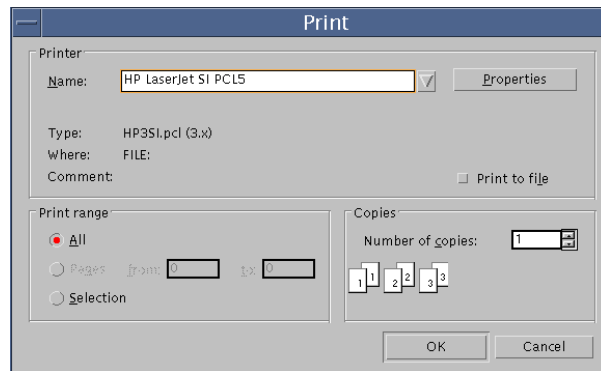

Figure B-1. Print Dialog Box
1. **In the File menu, click Print.** This displays the Print dialog box (Figure B-1).